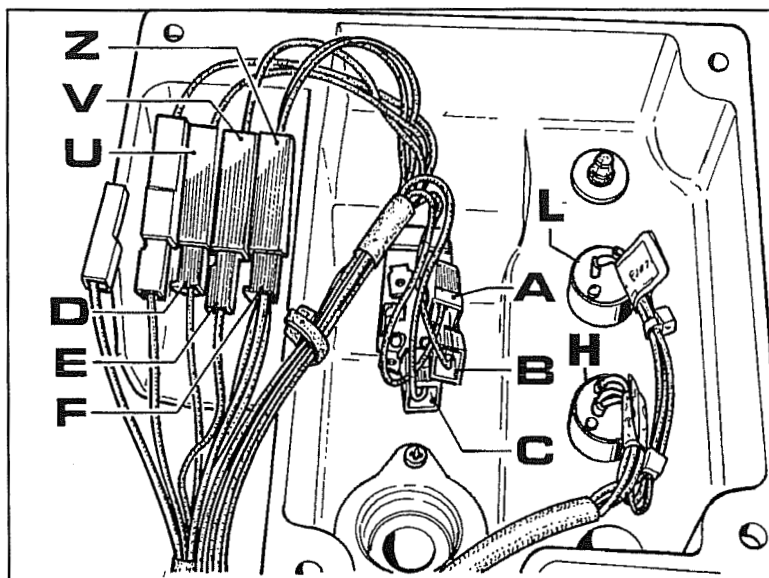

Fig. 43
5. To do this, remove the rheostat holder box on the right mudguard and turn it upside-down as shown in Fig. 43
6. Before disconnecting wires **A-B-C** to the central unit from the raise/lower switch, check their match up which should be as follows (see Fig.43):